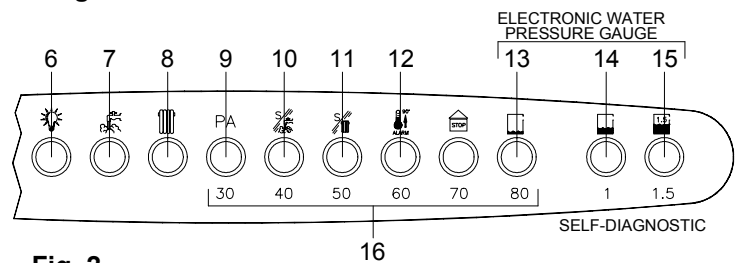

Fig. 2
SELF- DIAGNOSTIC LEGEND (see fig. 2)
- turn selector switch 1 to the ❄ symbol denoting winter (see fig.2);
- make sure that 6 light is ON (see fig. 2) and the no.14 or no.15 lights are ON (see fig. 2); if light no.13 flashes, it means water deficiency in the system: open the tap on the filling loop and fill the system until a pressure of 1.5 bar has been reached (light no.16 ON; see fig. 2) and then close the tap.